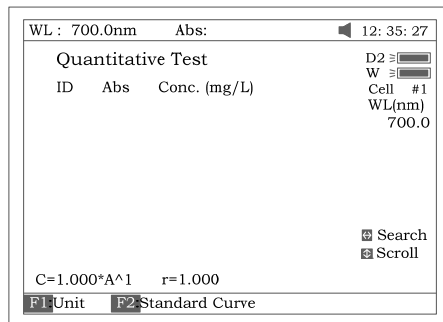
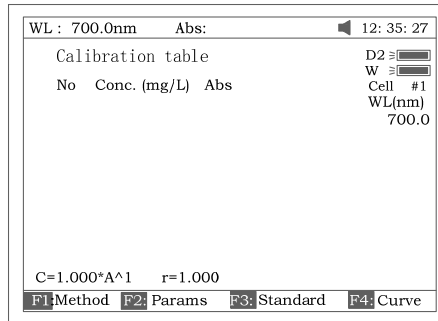
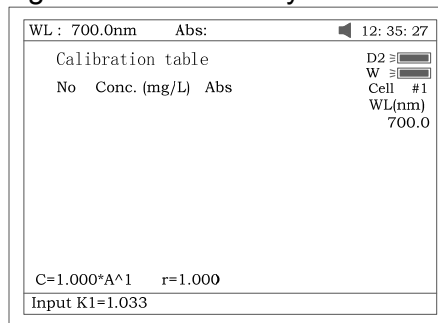
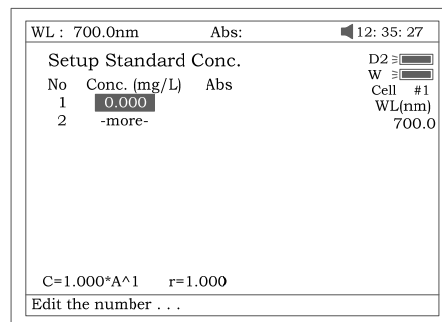

Fig 26
Fig 29
Fig 29A
Fig 30
Press [2] in Main Menu for “Quantitative” Test (Fig 26). Press [ESC/STOP] to exit.
Note: .If no automatic changer installed “cell #1” will disappear in Fig 26.
- Press [F2] in Fig 26 for more items to select .See Fig 29.
- Press **[F1]** in Fig 29 to select fitting method. There are 4 methods for you to choose: Linear fit, linear fit through zero, square fit and cubic fit.
- Press **[F2]** in Fig 29 to enter directly a known standard curve. Fig 29A.
- Press **[F3]** in Fig 29 to establish a standard curve by measuring a group of standard samples. See Fig 30.
- b) Known standard curve, which is not saved in the instrument. See page 17 for Fig 29 enter a known standard curve directly.
Note: All sample results must be taken in screen Fig 26.